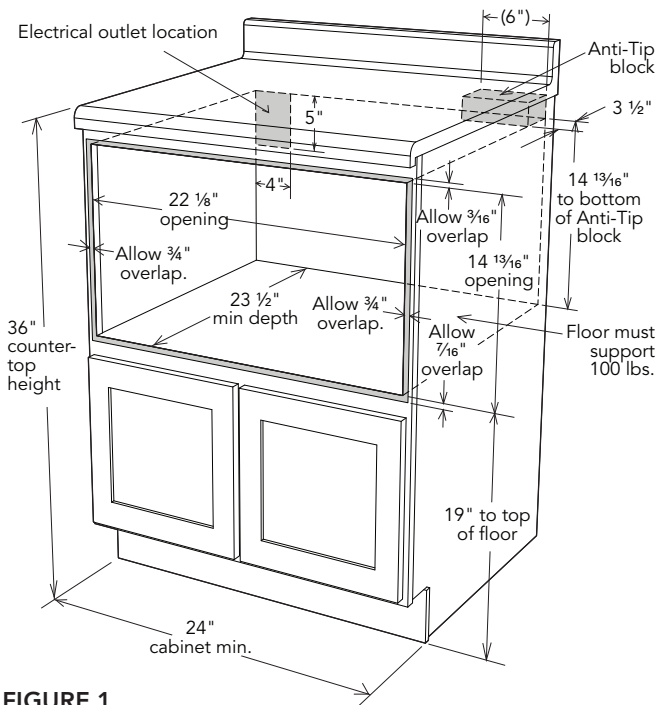
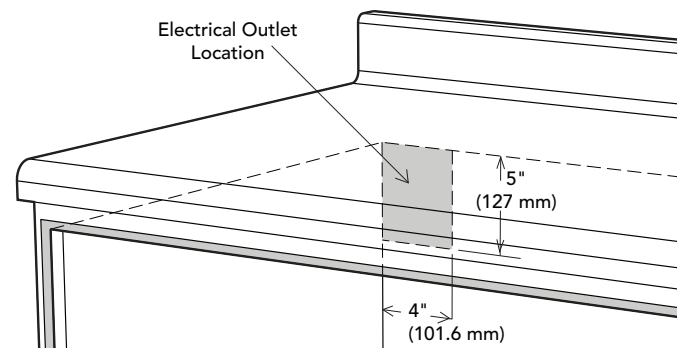

FIGURE 1
FIGURE 4
- FOR **SAFETY CONSIDERATIONS** DO NOT INSTALL DRAWER IN ANY COMBUSTIBLE CABINETRY, WHICH IS NOT IN ACCORD WITH THE STATED CLEARANCES AND DIMENSIONS ON PAGE 2, SEE FIGURE 1.
- Dimensions that are shown in FIGURE 1 must be used. Given dimensions provide minimum clearance. Locate electrical outlet in the shaded area in the upper left-hand corner of the cutout. See FIGURE 4.
FIGURES 1 and 2 contain many DrawerMicro Oven measurements for reference when planning the drawer's location.
To reduce the risk of tipping of the drawer, the Anti-Tip block must be properly installed located 14 ¹³/₁₆" above the floor on which the appliance will sit. The 6" Anti-Tip block must be provided by the installer. See FIGURE 1. The Anti-Tip block prevents serious injury that might result from spilled hot liquids.